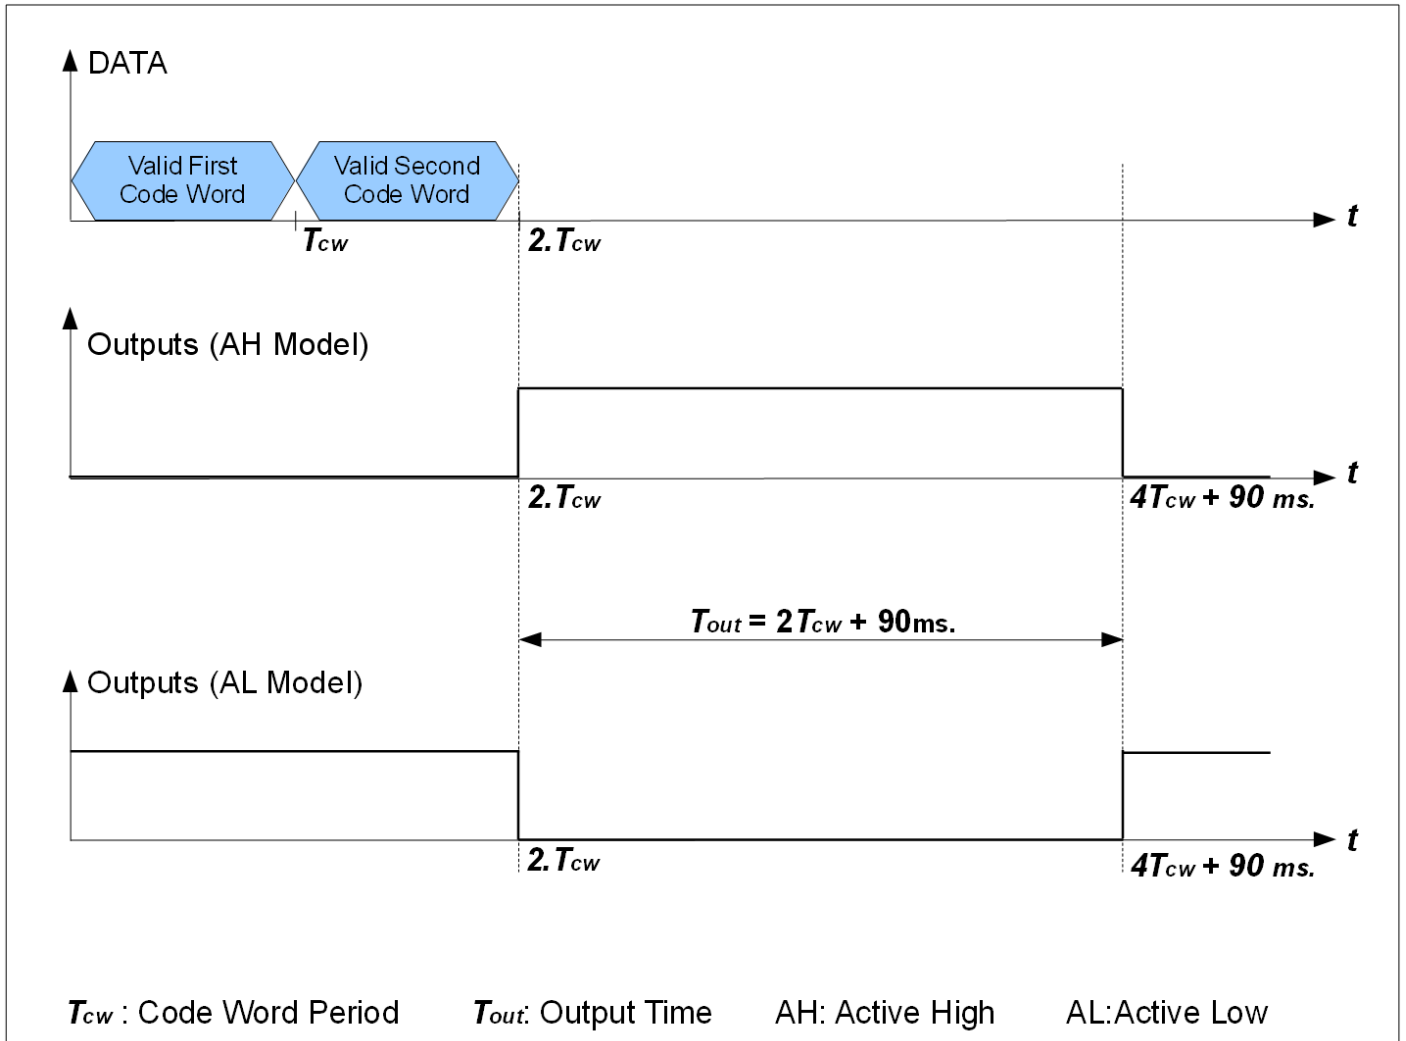

Figure 4. Timing of Outputs For Two Valid Code Words
In **active high(AH)** models of module, activated outputs go to logic high level after the second valid code. In **active low (AL)** models, activated outputs go to logic low level after the second valid code. Activated outputs remain in high (or low) level for minimum of **2.Tcw + 90 ms.** duration, where **Tcw** is code word period. This timing is shown in Figure 4.